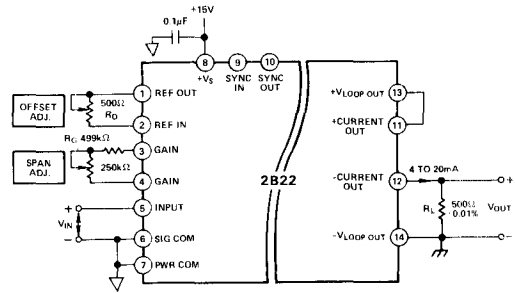

Figure 3. Optional Span and Offset Adjustment
Model 2B22 is factory calibrated for a 0 to +10V input range ($G = 1.6\text{mA/V}$). As shipped, the 2B22 meets its listed specifications without use of any external trim potentiometers. Additional trim adjustment capability, to reduce span and offset errors to $\pm 0.05\%$ max, is easily provided as shown in Figure 3. The following trim procedure is recommended:
1. Connect model 2B22 as shown in Figure 3.